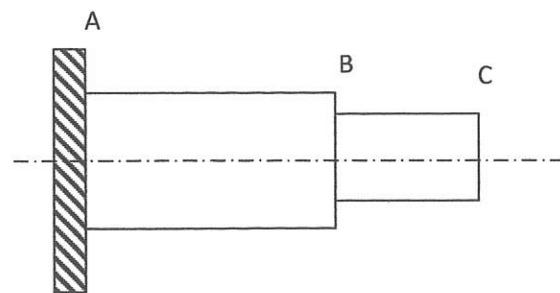

Figure 6/ Rajah 6
- b) The **Figure 6** below shows a solid circular shaft in serial connection is made from steel with length AB=350 mm and BC=200 mm. The diameter of AB is 60 mm and BC is 30 mm. If a torque 150 Nm is acted on BC, calculate the maximum shear stress in the solid circular shaft and total angle of twist for the shaft. Given $G = 80 \text{ GN/m}^2$.